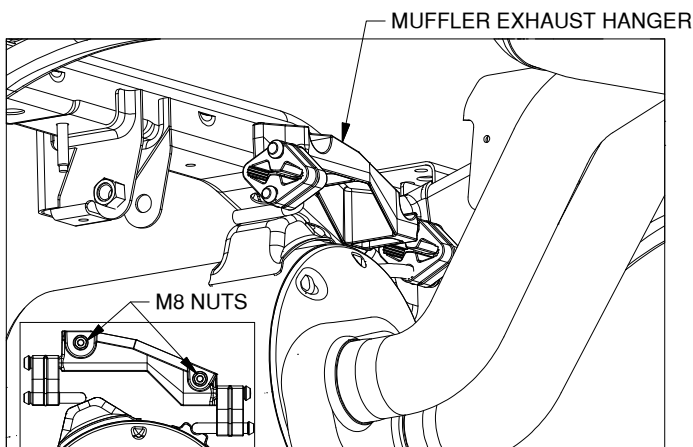

Figure A3: View under truck looking up at muffler hanger.
- Loosen muffler exhaust hanger.** For 2025 and newer vehicles, the muffler exhaust hanger must be loosened to provide adequate clearance for installation. Use a 13mm socket to loosen the two M8 nuts securing the hanger until it hangs down as far as possible, see Figure A3. The nuts do not need to be removed from the threaded studs.